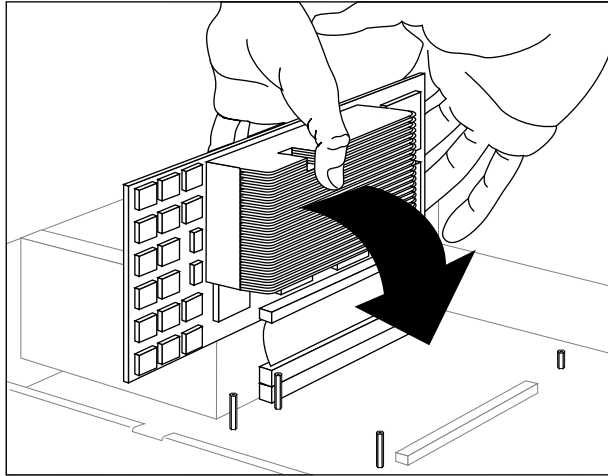

Figure 2-17 Preparing to Lower the R8000 CPU Module Into Place
6. When the flex-cable connector is properly seated on the IP26 base board, prepare to lower the R8000 CPU module. Shift your hands to the front and back sides of the CPU module. Figure 2-17 shows the right hand already in position at the front of the module.